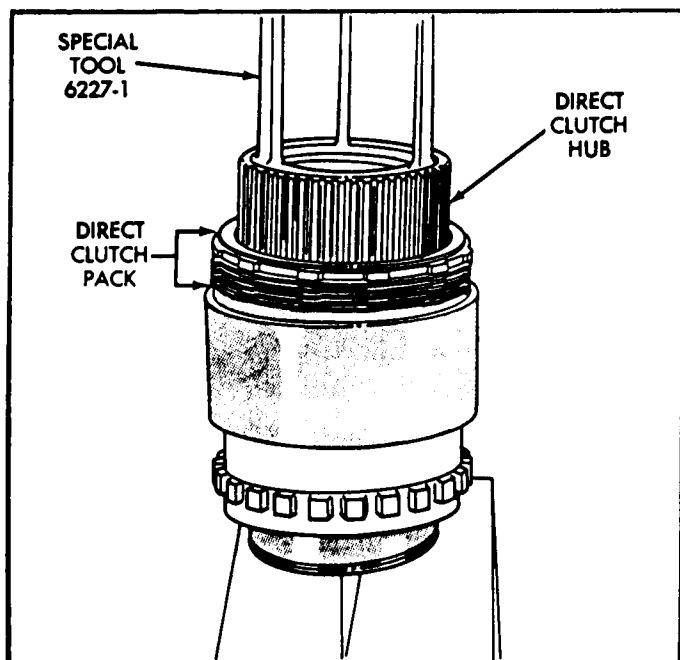

Figure 14
20. After the press is fully released, remove the Special Tool 6227-1, as shown in Figure 14.
21. Remove the direct clutch pack complete (See Figure 14).